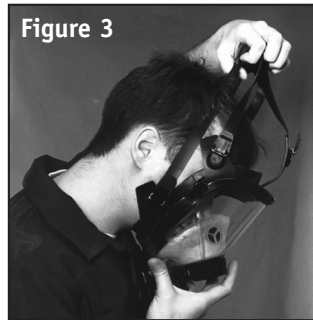

Figure 3
10. Push the top of the facepiece flange up the forehead, brushing hair upward from the face seal area (See Figure 3). Continue up and over the head until the harness is centered at the rear of the head, and the chin rests in the chin cup.